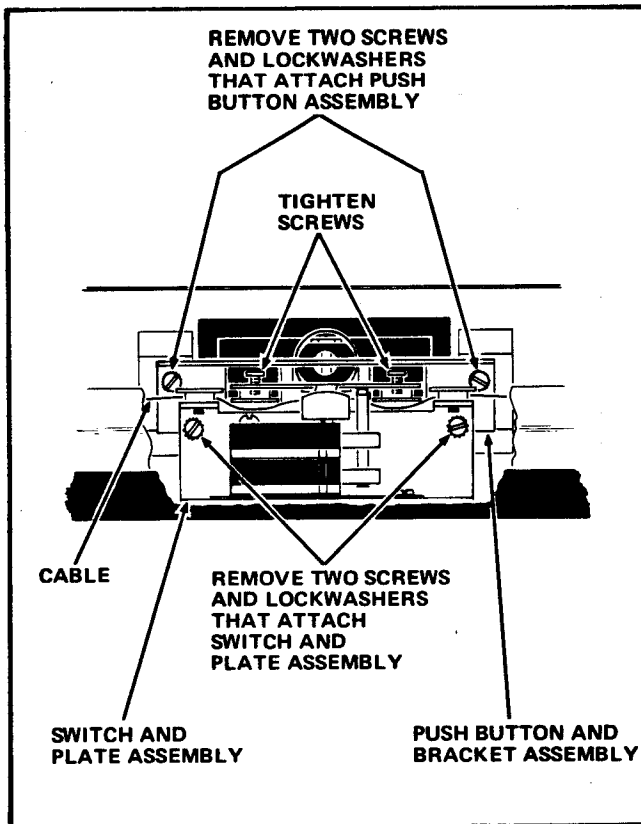

FIGURE 16
5. Remove the Cable from the Cable Guides on the Extension Assembly and retighten the Screws. See Figure 16.
8. Remove the 2 Screws and Lockwashers which attach the Switch and Plate Assembly to the Push Button and Bracket Assembly. See Figure 16.